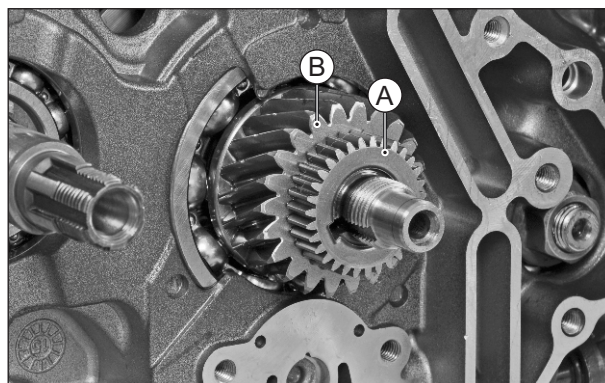

Fig. 3.127
- Remove gear oil pump drive (A). (Fig. 3.127)
- Remove gear primary drive (B). (Fig. 3.127)